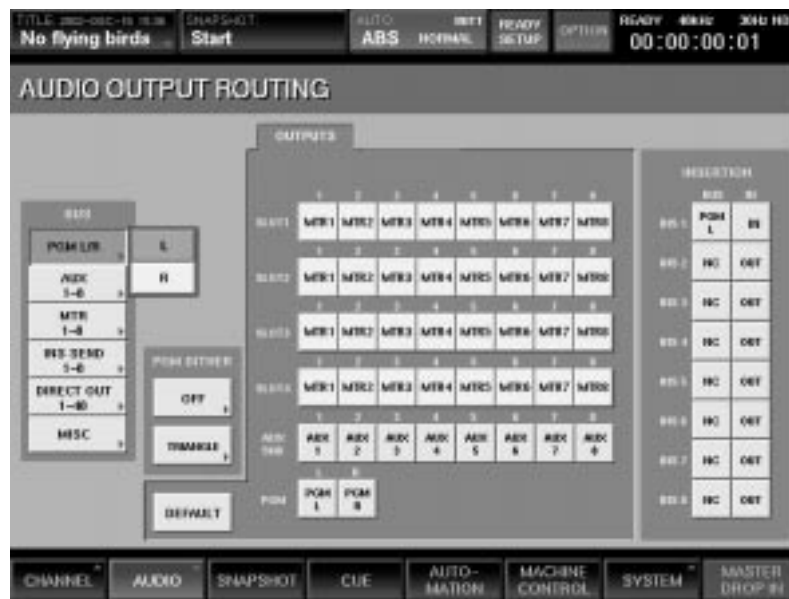

Figure 23
- 2 From the drop-down menu, press L, then press INS 1 in the Insertion section (right-hand side of the screen). PGM L will be selected for Insert 1, which will also be set to IN. (See Figure 23)